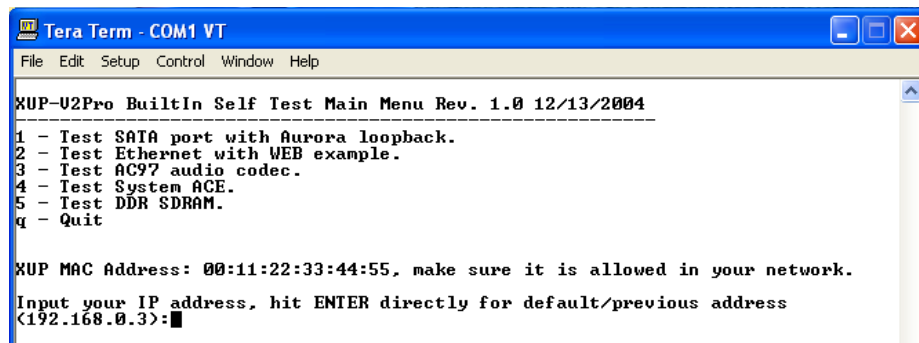

Figure D-11: Specifying IP Address for XUP Virtex-II Pro Development System
1. After selecting “2” in the BIST Main Menu, you will be prompted to enter the IP address for the XUP board, as shown in Figure D-11.